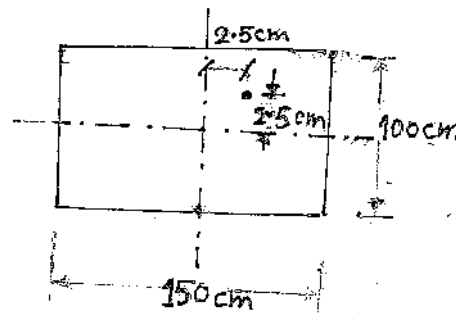

Fig. 10.1
10. a) A rectangular pier is subjected to a compressive load of 450 kN as shown in fig. 10.1. Find stress intensities on all the four corners of the pier. 8